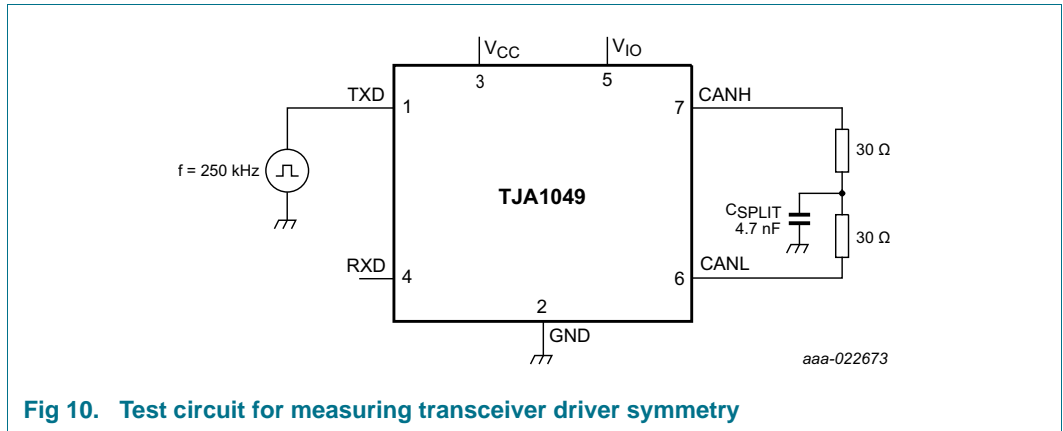

Fig 10. Test circuit for measuring transceiver driver symmetry
- [6] The test circuit used to measure the bus output voltage symmetry (which includes  $C_{SPLIT}$ ) is shown in Figure 10.